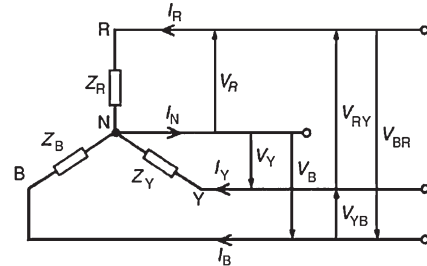

Figure 20.3
- (i) A **star-connected load** is shown in Fig. 20.3, where the three line conductors are each connected to a load and the outlets from the loads are joined together at  $N$  to form what is termed the **neutral point** or the **star point**.
- (iv) From Fig. 20.3 it can be seen that the phase currents (generally denoted by  $I_p$ ) are equal to their respective line currents  $I_R$ ,  $I_Y$  and  $I_B$ , i.e. for a star connection: